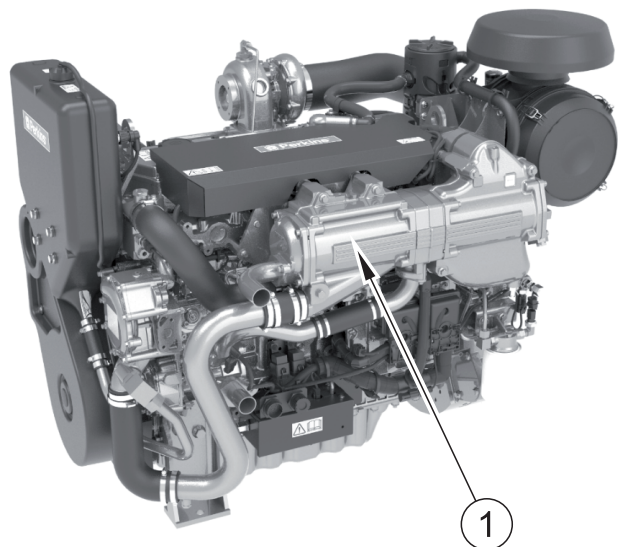

Figure 15
The interval for the maintenance of the tube type heat exchanger/aftercooler (figure 15 item 1) depends on the operating environment of the vessel and on the operating time. The sea water that is circulated through the heat exchanger and the amount of operating time of the vessel affects the following items: